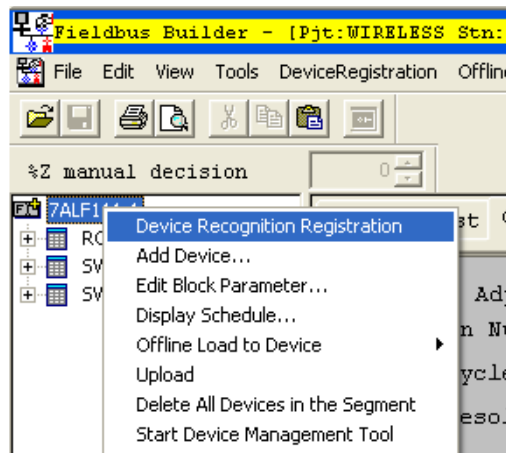

Figure 76 Device Recognition Registration
1. From the Fieldbus Builder, right-click on the segment and select **Device Recognition Registration** from the menu (Figure 76).